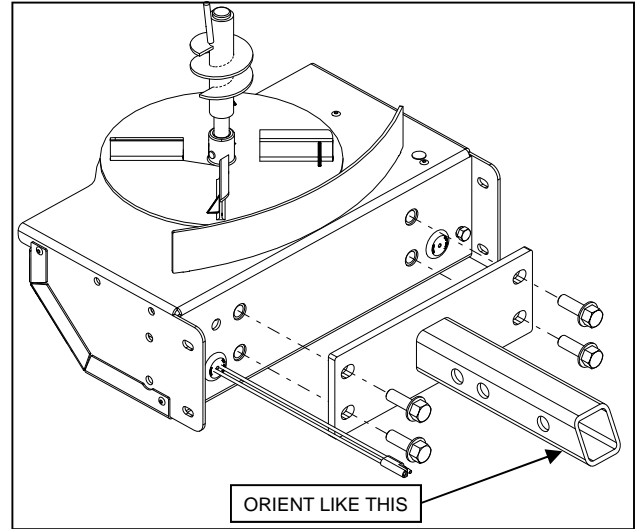

Fig 1.1
- 1.1 Place the drive assembly on a flat level surface. Attach the receiver mount to the drive assembly as shown in figure 1.1 using four $1/2" \times 1-1/2"$ cap screws. Tighten the fasteners according to torque chart.